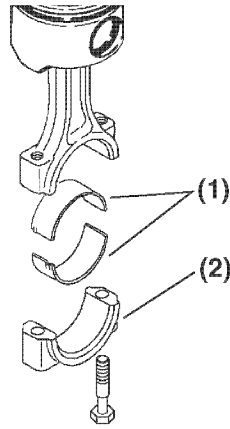

Figure 6-94
5. Reinstall the bearing inserts (Figure 6-94, (1)) in the connecting rod and cap.
- Apply a light coat of clean engine oil to the rod cap bolts. Reinstall the connecting rod cap bolts (**Figure 6-94, (2)**). Tighten the connecting rod bolts to the specified torque in two stages (1/2 then full torque). See *Special Torque Chart on page 6-14*.